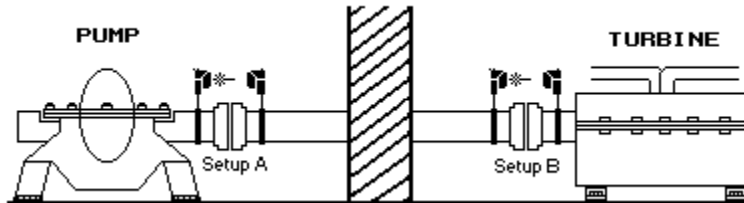
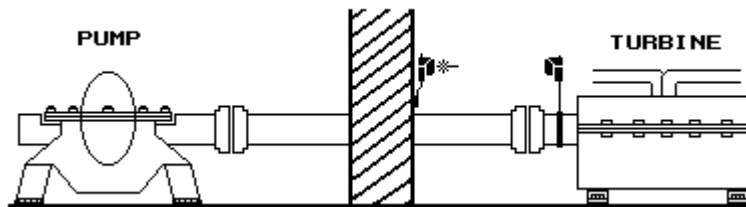

Figure 1
Figure 6
- 1) Mount your brackets across the left coupling, installing the laser on the shaft of the Stationary Machine. Install the receiver on the spacer shaft. (See Figure 1, Setup A.) Turn on the laser and remove its dust cap.
9) Replace the dust caps on laser and receiver. Remove your brackets and reinstall them across the right coupling. Mount the laser on the spacer shaft and the receiver on the MTBM shaft. See Figure 1, Setup B.
Now that you have obtained alignment results for your Machine To Be Moved (MTBM) you may wish to perform alignment corrections with the assistance of the Move Function. You cannot bridge across the spacer shaft with a 'single-shot' setup due to the obstruction. You cannot leave the laser on the spacer shaft as in Figure 1, Setup B, since the spacer shaft will move as you move the MTBM. Therefore, you must find a secure location independent of the spacer shaft to which you can mount the laser in such a way that it will still face the receiver which is mounted on the MTBM shaft. Perhaps the obstruction itself is a good candidate. For instance in a ship this obstruction is the steel bulkhead separating the two machines, through which the spacer shaft runs. The laser could be mounted directly to this bulkhead using ALI 2.112 Magnetic Brackets and ALI 2.2118 Offset Support Posts. See Figure 6 below for an illustration of this suggestion: